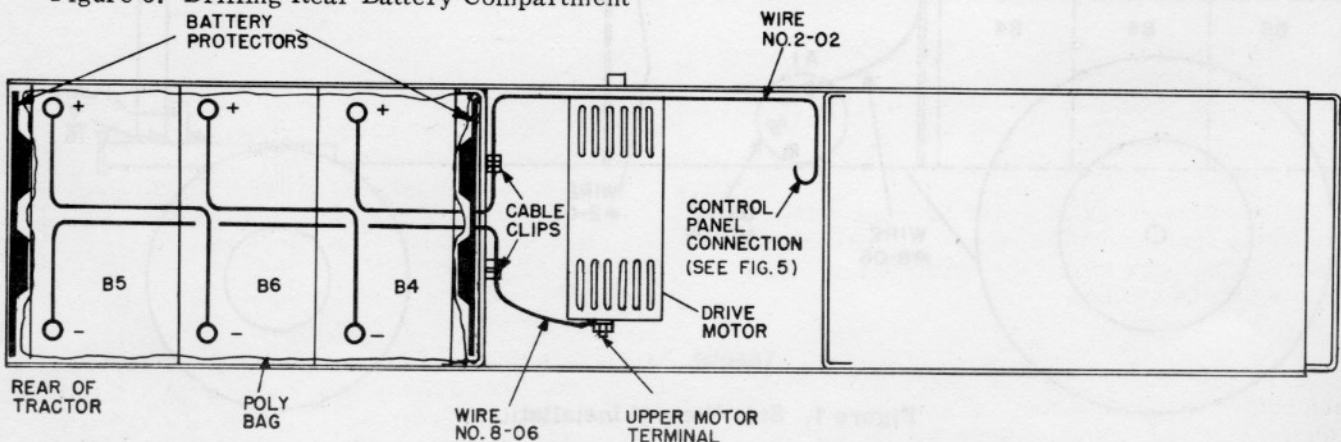

Figure 4. Wiring and Battery Layout
8. Place the vacuum-formed battery protector between the poly bag and the compartment wall at each end of the compartment. Position the protectors so their corrugations will face the battery walls. See Fig. 4.
9. Carefully set the batteries in the bag as shown in Fig. 4 so the sides of the bag remain above the top surface of the batteries in equal amounts. (It may help to tape the upper edges of the bag to the compartment sides temporarily to permit easy insertion of the batteries.) **DO NOT CONNECT BATTERY CABLES AT THIS TIME!**
11. Attach the battery cable numbered 2-02 to the insulated stud or the circuit breaker as required. See Fig. 5. Route the cable toward the rear battery compartment under the control cabinet along the left side of the frame. **KEEP THE CABLE FREE OF STEERING GEARS AND SHIFT LEVER.** Attach the cable to the positive (+) post of battery B4, as shown in Fig. 4.
12. Attach the cable numbered 8-06 to the uppermost motor terminal and route the cable into the rear battery compartment keeping it away from the gear shift lever. Attach cable to the negative (-) terminal of battery B5 as shown in Fig. 4. Complete the battery wiring, also shown in Fig. 4, and reconnect the battery cable 2-01 to battery B2 in the front compartment.
13. Secure the cables to the front wall of the battery compartment with cable clips as indicated in Fig. 4.